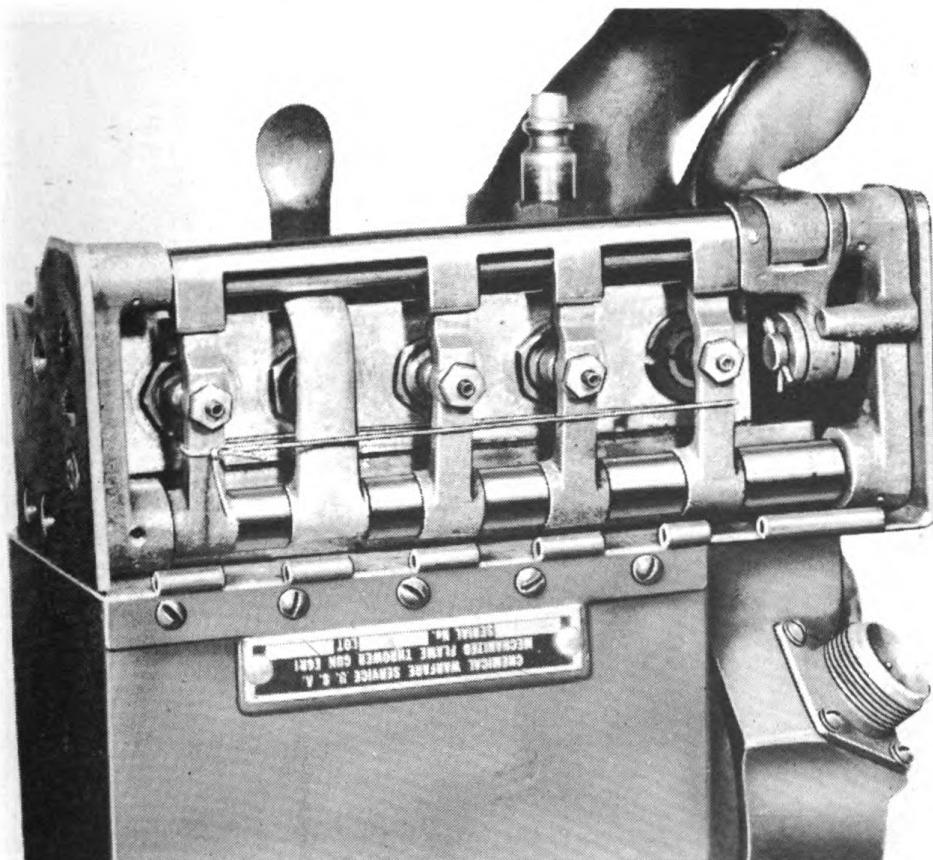

Fig. 103. Control levers tied together for removal.
--Tie the control levers to one another with a piece of string or wire (fig. 103).